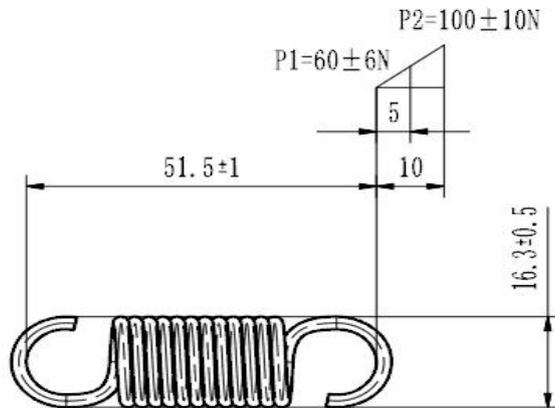

Fig.21
**muffler spring** (see Fig 21), Material :82B.